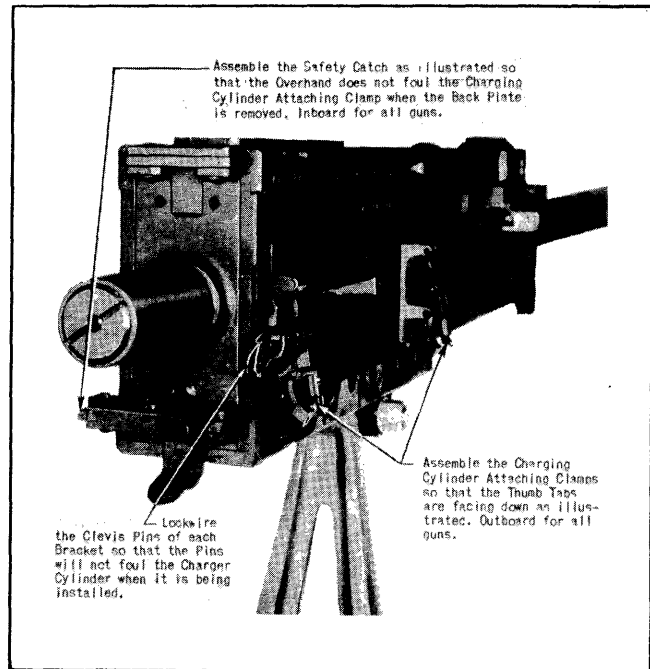

Figure 1 - Safety Catch and Charging Cylinder Clamps Installed
(3) Sear Slide. - The sear slide on the gun should operate from the inboard side of all guns (left side for the right wing guns and right side for the left wing guns) to coincide with the installation of the solenoids.
(4) Special Bolt Studs. - The special bolt studs, supplied with the hydraulic charger cylinders and stowed in the parts bag attached to the charger cylinder as loose equipment, should be installed on the outboard side of all guns (right side for right wing guns and left side for left wing guns).
(5) Safety Catch. - The safety catch on the gun backplate should be assembled with the overhang on the inboard side of each gun (left side for right wing guns and right side for left wing guns), to prevent the safety catch overhang from fouling the charging cylinder clamp when the backplate is removed from the gun. (See figure 1.)
(6) Feed Chute Attaching Blocks. - These blocks should be assembled to the gun feedway as follows:
c. To Install the Charger Cylinder Brackets on the Gun. - The special charger cylinder bolt studs are installed as outlined in section I, 1.b.(4). Install the charger cylinder mounting brackets on the outboard side of all guns with the wing nuts in the downward position as shown in figure 1. This may require reversing the strap type clamp of the mounting bracket. Install a locking wire around the three clevis pins of each bracket so that the pins will not foul the charger cylinder when it is being installed on the gun.